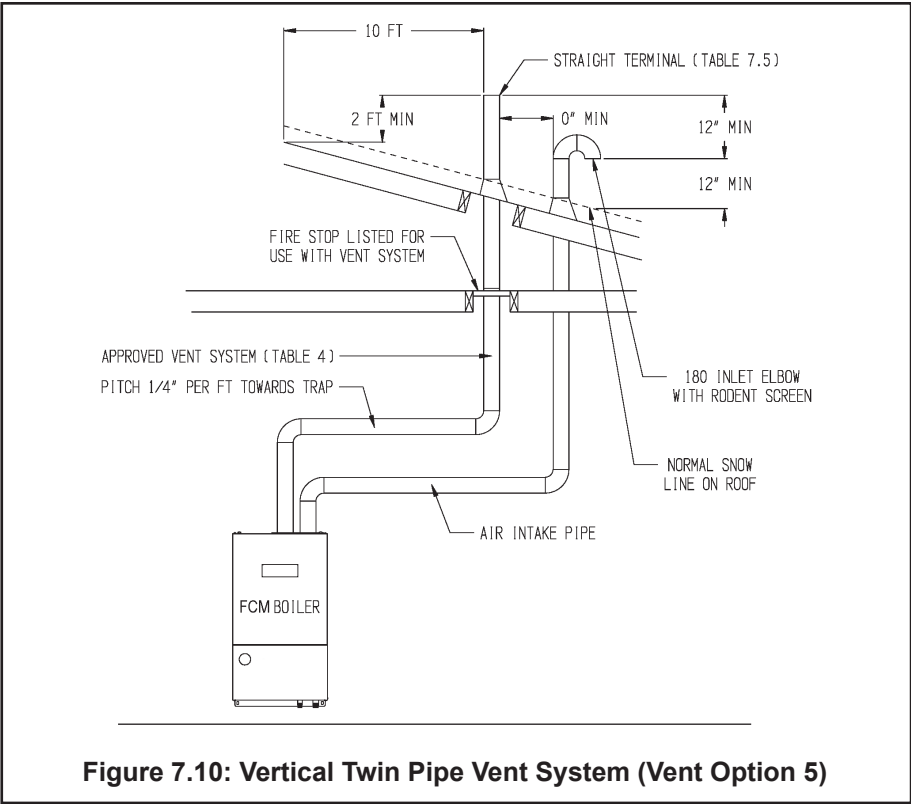

Figure 7.10: Vertical Twin Pipe Vent System (Vent Option 5)
- **Vent Option 5** - A straight termination is installed in the end of the vent pipe. Vent manufacturer part numbers for these screens are shown in Table 7.5. The air inlet terminal consists of a 180 degree elbow (or two 90 degree elbows) with a rodent screen as shown in Figure 7.10
7) Vertical Vent Terminal Locations (Vent Options 5, 6) - Observe the following limitations on the location of all vertical vent terminals (see Figures 7.10 and 7.11):